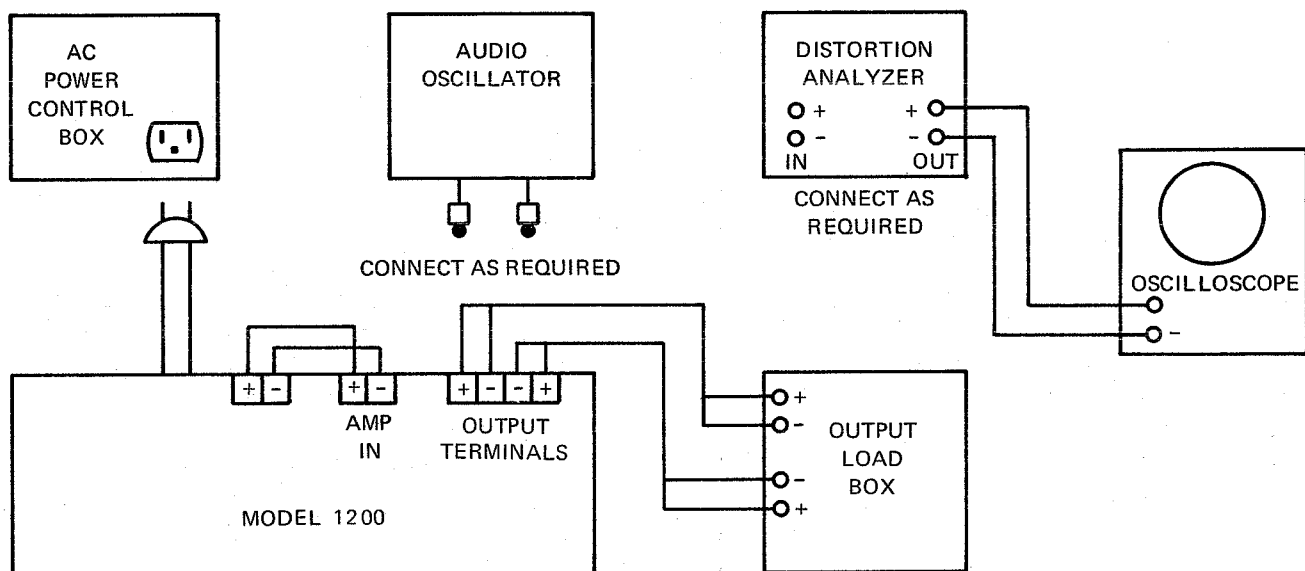

Figure 12. Test Equipment Set-Up
12. Output should follow curve shown in figure 12 (\pm 2dB) as indicated on distortion analyzer.